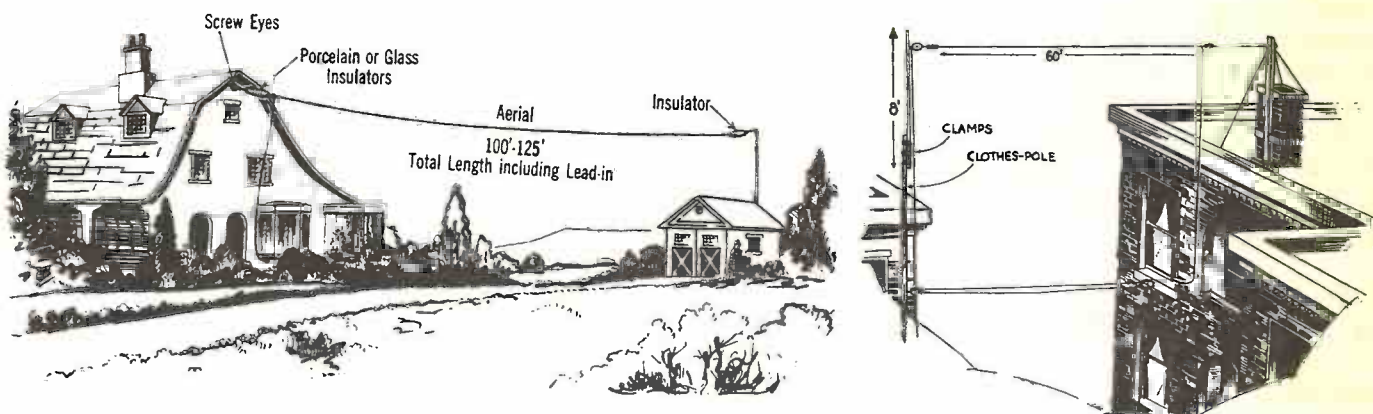

Fig. 60 - Typical Aerial Installations.
(3) Aerial Installation. The subject of aerials comes more under set installation than servicing; but, in either case, care should be taken to see that the aerial is well constructed to insure permanent operation. See the illustrations of Fig. 60. It should be erected as far from other aerials or wires as possible, strung as nearly at right angles as possible to other wires, and placed neither under or over high-voltage lines, which is not only dangerous in case of breakage of a wire but is likely to produce a 60-cycle hum in the set. With a good soldered connection between the lead-in and the aerial (scraping each strand of the aerial wire separately if it is enameled) little trouble should be experienced with it from thereafter. Many installers don't take the trouble to solder the lead-in connection to the aerial, and in time corrosion takes place, causing an imperfect connection which is swayed by the wind and produces "static" in the set. In cases when it is temporarily impossible to form a good soldered connection, the joint should be tightly bound with tape to protect it from the weather.
(4) Aerial Location. The location of the aerial depends largely upon environment, and one phase of environment usually overlooked and likely to cause trouble is that of the so-called "dead spots," more noticeable in the vicinity of large steel buildings than elsewhere. In such installations, when the set fails to function properly and stations are very weak, changing the direction of the aerial (say 90 degrees or at right angles to its former position) will rectify the trouble. Sometimes it will be